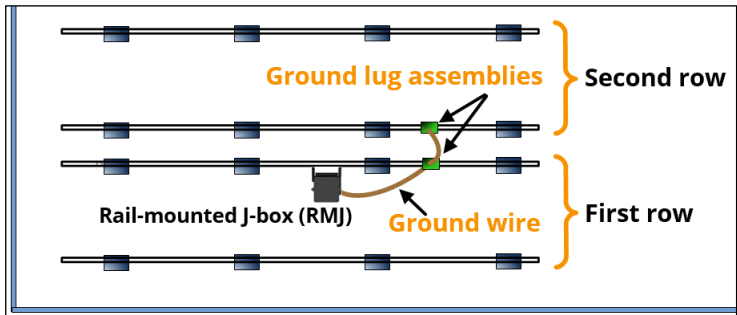

Fig. 11
- two ground wires and two ground lug assemblies (Fig. 11)